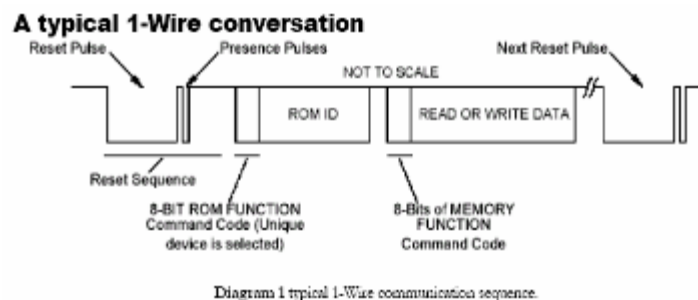

Fig4-99 - A Typical 1-WIRE Conversion
B. Write 1: If the sampling is high, 1 is generated (Note: Read 1 is of a similar waveform pattern) as in Fig4-99: